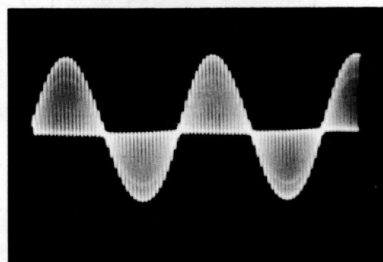
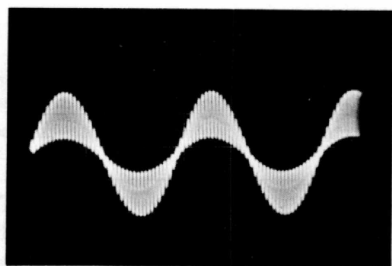

Figure 15. Trace Obtained at Output Cable With L-5, L-6, and L-7 Properly Adjusted
Figure 16. Trace Showing Improper Adjustment of L-5, L-6, and L7
4. Set the FREQUENCY switch to "1000 cps". Set the oscilloscope sync selector switch to "+INT". Adjust coils L-5, L-6, and L-7 to obtain a waveform as shown in Figure 15. Figure 16 is shown as an example of misadjustment of these coils. The base line, or horizontal axis, of the waveform must be straight. Curving or tilting of this base line will result in a loss of separation in the stereo signal.
6. Connect the "SYNC" input of the oscilloscope to V-1, pin 2. Set the oscilloscope to "External Sync". Adjust R-45 for minimum amplitude at the point where the pattern crosses the horizontal axis. The correct pattern is shown in Figure 15.